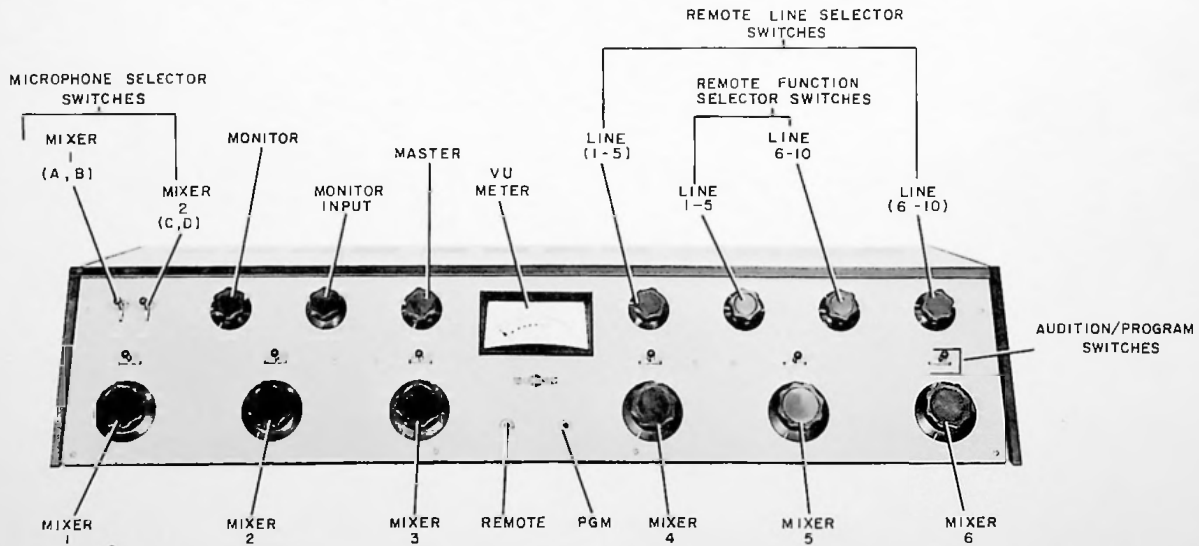

Figure 3-1. Control Locations
Refer to figure 3-1. The six meter controls are located near the lower edge of the front panel of Broadcast Console 212F-2. They are identified as MIXER 1 through MIXER 6. These mixer controls are variable attenuators that adjust the level of the preamplifier outputs and remote/network inputs. The mixer outputs are connected to either the program bus or audition bus. The particular connection is determined by the position of the audition/program switch located directly above each mixer. When this three-position lever switch is in the left (A) position, the mixer output is connected to the audition bus; when it is in the right (P) position, the output is connected to the program bus. When the switch is in its center position, the mixer output is disconnected from both buses.